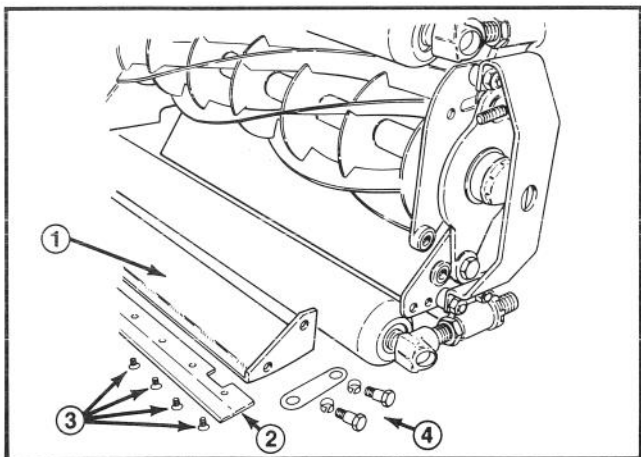

Figure 24
2. Remove the mounting screws for the bedknife and separate the bedknife from the bar (Fig. 24). Discard the screws.